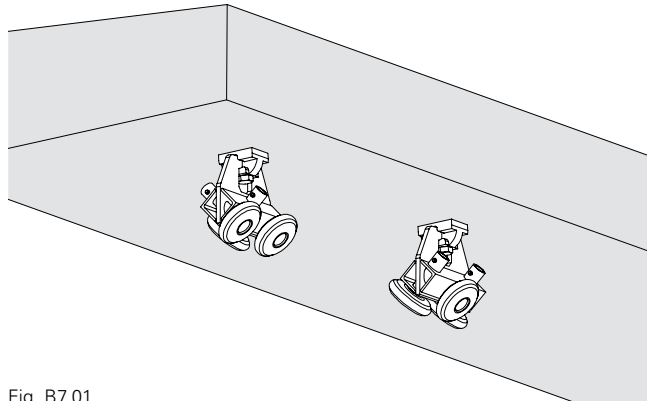

Fig. B7.01
Ensure that the Suspension Head M24 VARIOKIT (14) is correctly assembled. The hook pockets of the Suspension Head M24 VARIOKIT (14) should always be alternately pointing towards the outer edge and inner edge of the cantilever. (Fig. B7.01)